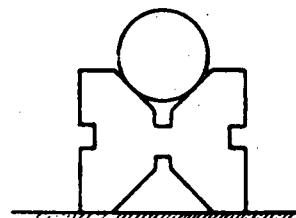

Fig. 5
4. Use V-blocks to support cylindrical pieces (Fig. 5).